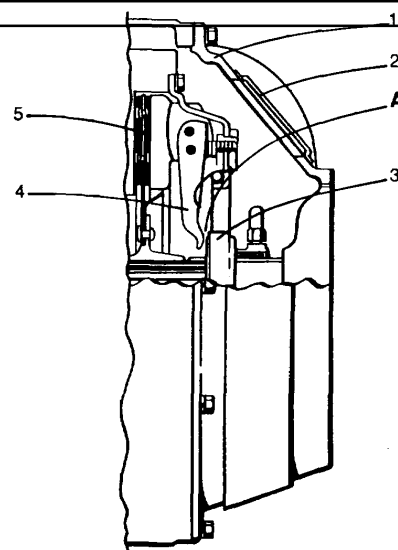

Fig. 5 Release Bearing Clearance L189-A
- (c) Check the overall length of the clutch linkage (5). It must be adjusted so the clutch pedal (6) is tight against the floorboard when the adjusting lever (3) is in its most forward position.
- (d) Reconnect the clutch linkage (5) and check the return spring (1) tension. Make sure the tension is such that the clutch pedal remains tight against the floorboard.
- (e) Remove the clutch cover plate (2) from the clutch housing (1) (Fig. 5).
- (f) Check the release bearing clearance (A). It should be 1/8" (3.17mm) (Fig. 5).
- (g) To increase this clearance back off on the adjusting screw (4).